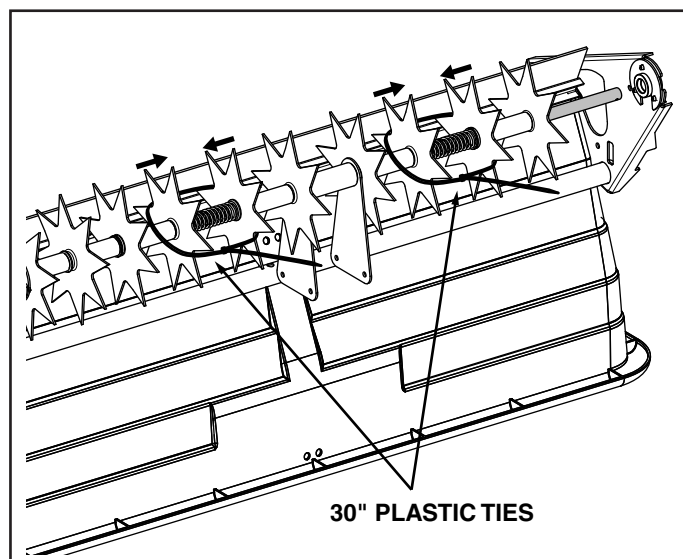

FIGURE 12
15. Assemble 30" plastic ties around the each set of spike disks that surround the springs. Loop the ties around opposite sides of each spike disk. Tighten the ties, compressing the springs so that there is room to assemble the rest of the parts onto the axle, and to insert the axle through the end of the spreader frame. See figure 12.